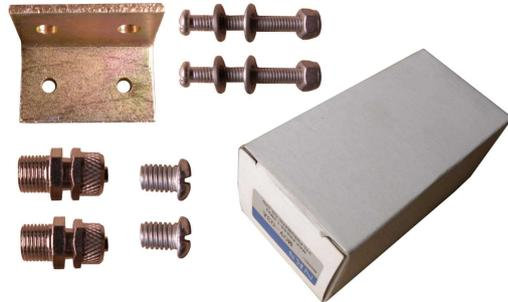

Fig.11
8. Check the Parts bag according to the parts bag list (See Fig. 11).